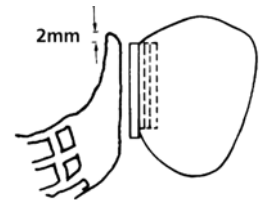

Fig. 24
3. Wax a vertical strut directly against the refractory duplication of the male. The strut should extend approximately 2mm above the attachment male. Complete the wax-up for the rest of the framework as per planned design (Fig. 24).